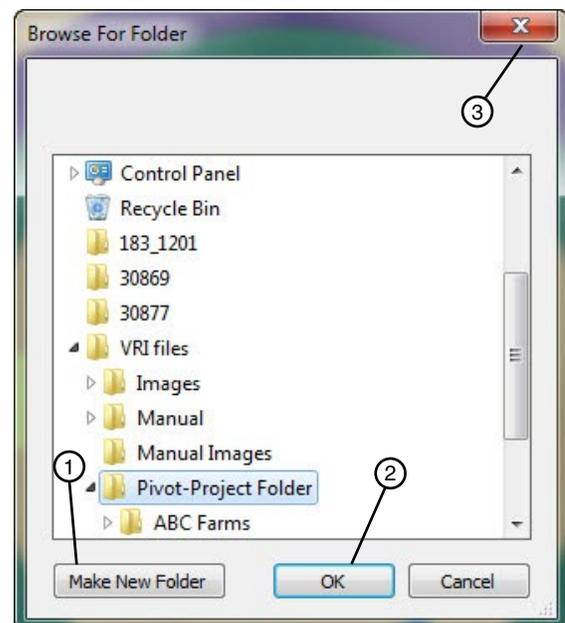

Figure 44-2 1. Make New Folder Button
- If you selected **Save to file** and clicked **Continue**, the Browse For Folder pop-up screen appears. See Figure 44-2.